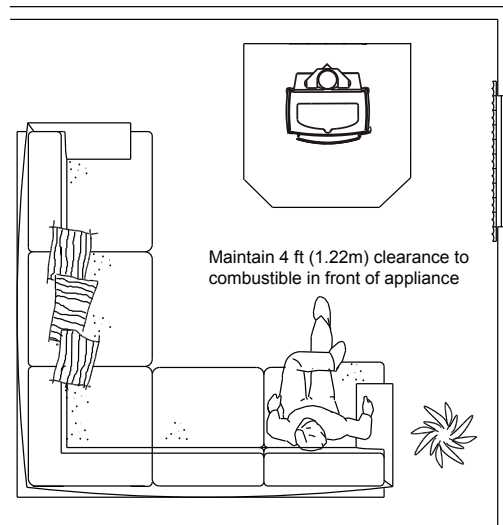

Figure 26.1 - Clear Space
- Do NOT place combustible objects within 4 ft (1.2 m) of the front of fireplace. **Figure 26.1.**